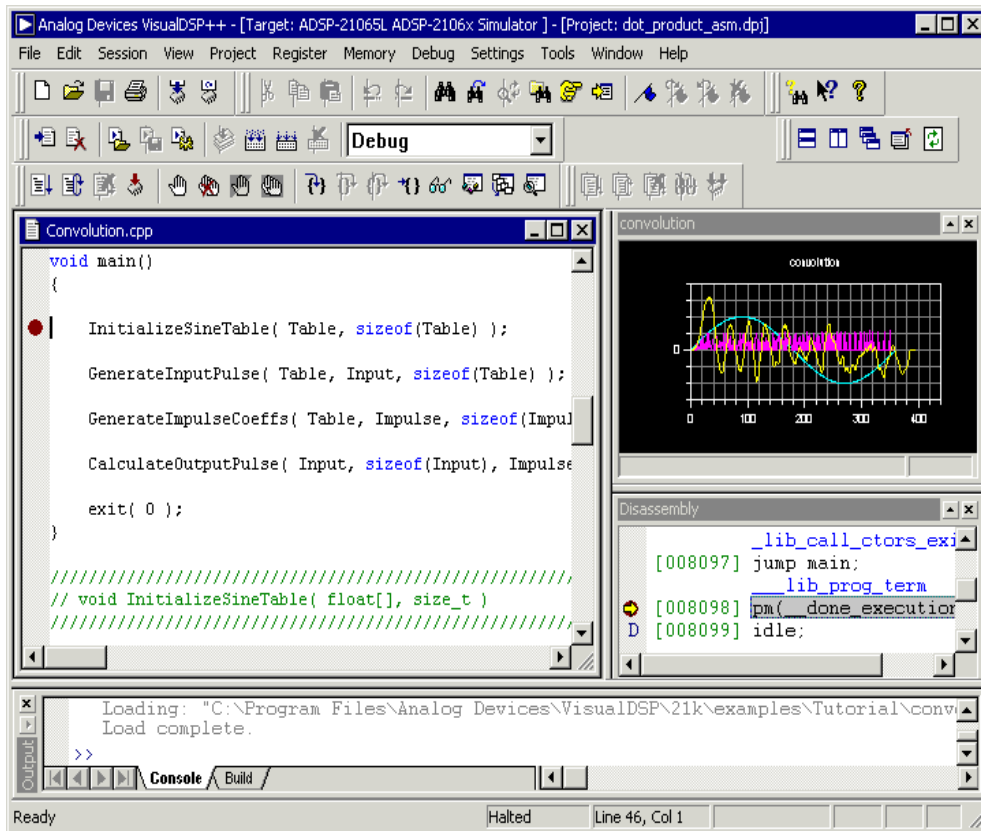

Figure 3-28. Plot Window: After Running the Convolution Program to Completion
3. Press **F5** or click the **Run** button  to run to the end of the program. When the program halts, you see the results of the `Convolution` algorithm in the `Output` array. All three data sets are now visible in the Plot window, as shown in Figure 3-28.